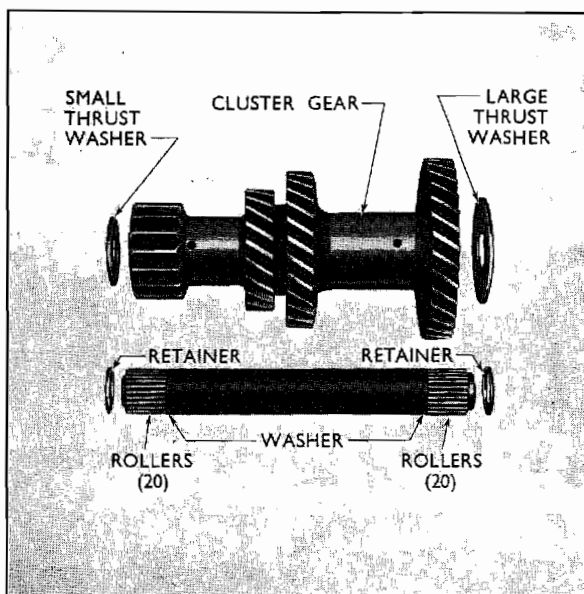

Fig. 18
5. Reassemble the countershaft (Fig. 18). Locate the tubular spacer with a washer at each end in the cluster gear and fit the dummy countershaft. Grease the needle rollers and locate twenty around the dummy countershaft at each end of the gear. Fit the retaining washers over each end of the dummy countershaft. Locate the two thrust washers (large diameter washer to the front) in position in the gearbox. Ensure that the tongue on each washer is located in the recess in the gearbox.